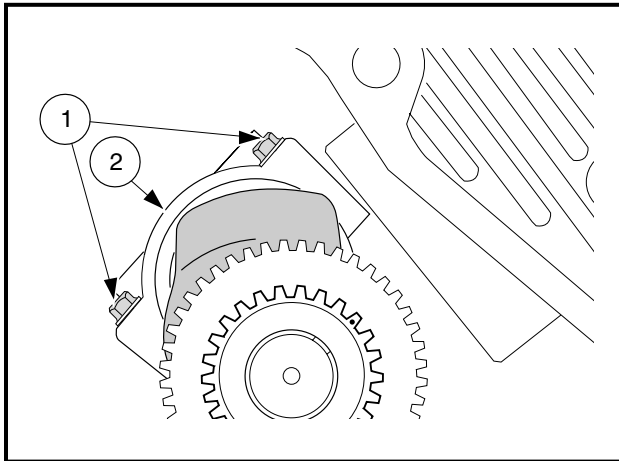

Figure 3-44 Connecting Rod Cap Bolts
1. Turn crankshaft to expose the two connecting rod cap bolts (1) (Figure 3-44, Page 3-24).
2. Loosen the cap bolts and take them out together with the connecting rod cap (2).